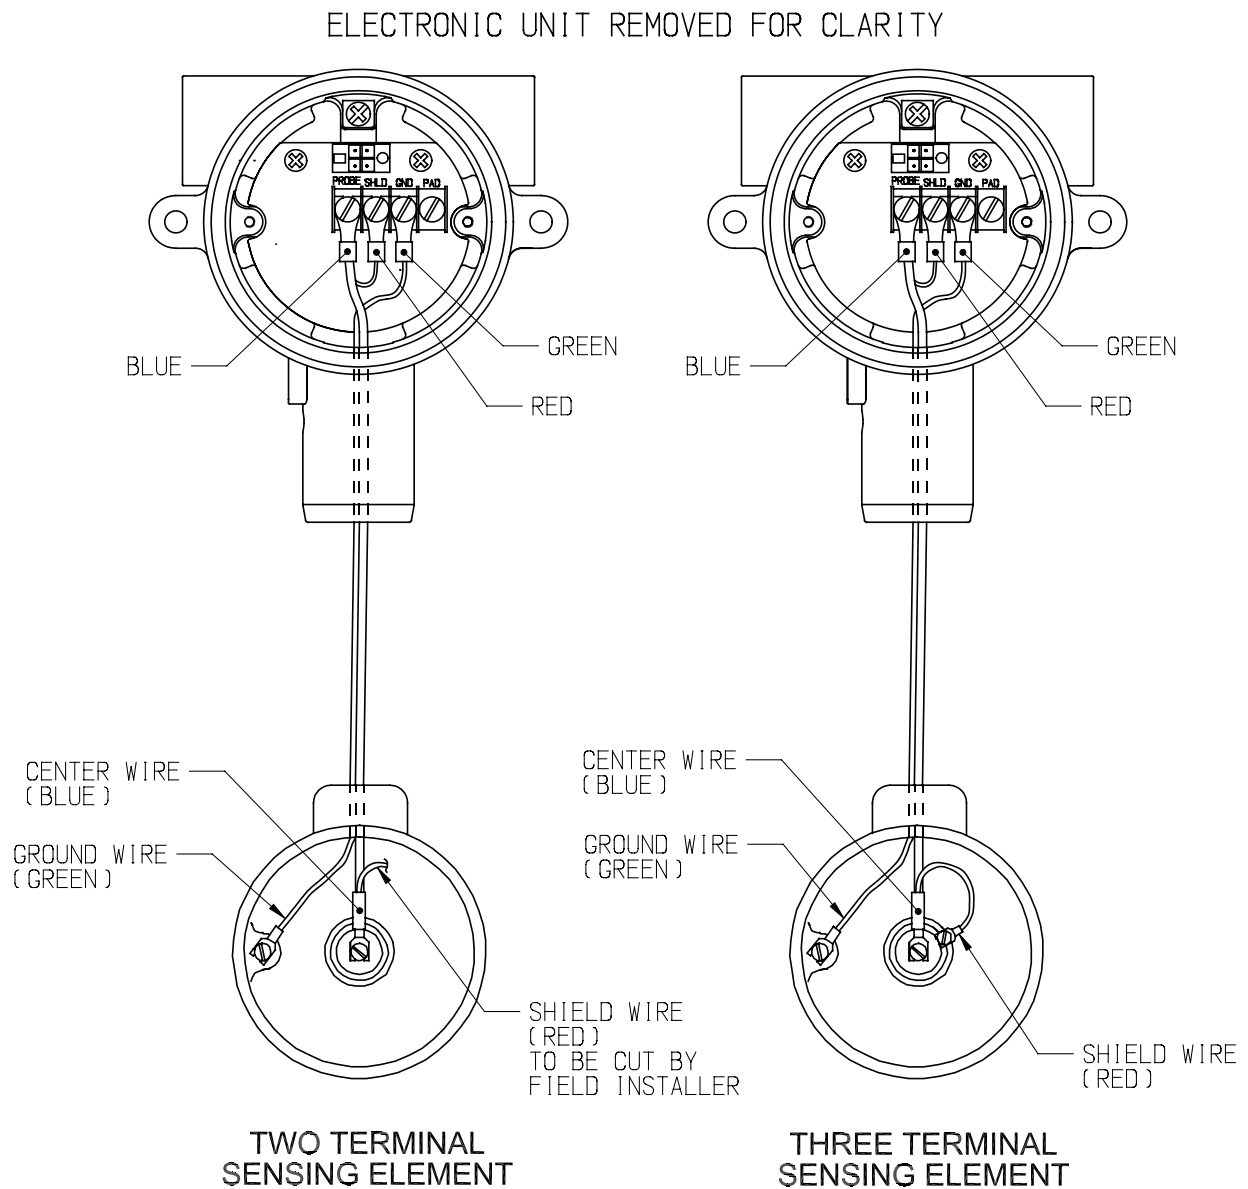

Figure 2-8
See **Figure 2-8** for wiring connections of the remote unit. The cable from the sensing element is connected to the terminal strip below the instrument chassis. The cable connections are sensing element (prb) or center wire (cw), ground (gnd), and shield (shd).
The cable connections to the remote sensing element are shown in *Figure 2-8*
- If the sensing element does not have a shield connection, (the most common condition for a 2-terminal sensing element) be sure to clip and /or tape the shield wire at the sensing element end of the cable only. See *Figure 2-8*.
- * For sensing elements that do not have shield connections, clip the shield wire as shown in *Figure 2-8*.